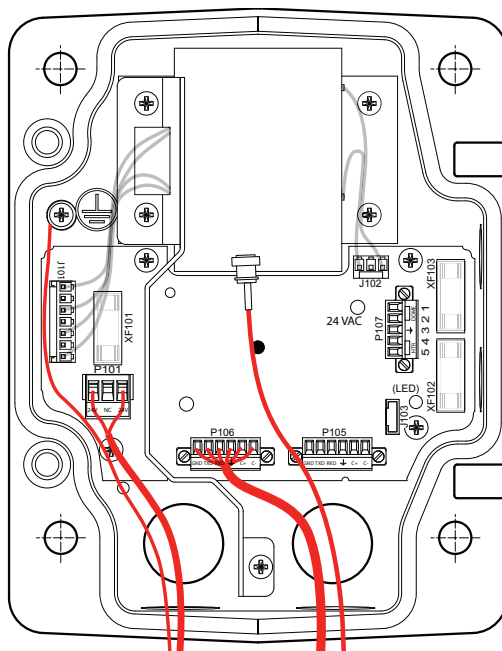

Figure 2.2 Pendant Arm Power Supply Box
3. Cut and trim all wires with sufficient slack to reach their connector terminals in the box, but not so long as to be pinched by or to obstruct closing the Pendant Arm. See *Figure 2.2, Page 17*, above, for the connector locations.